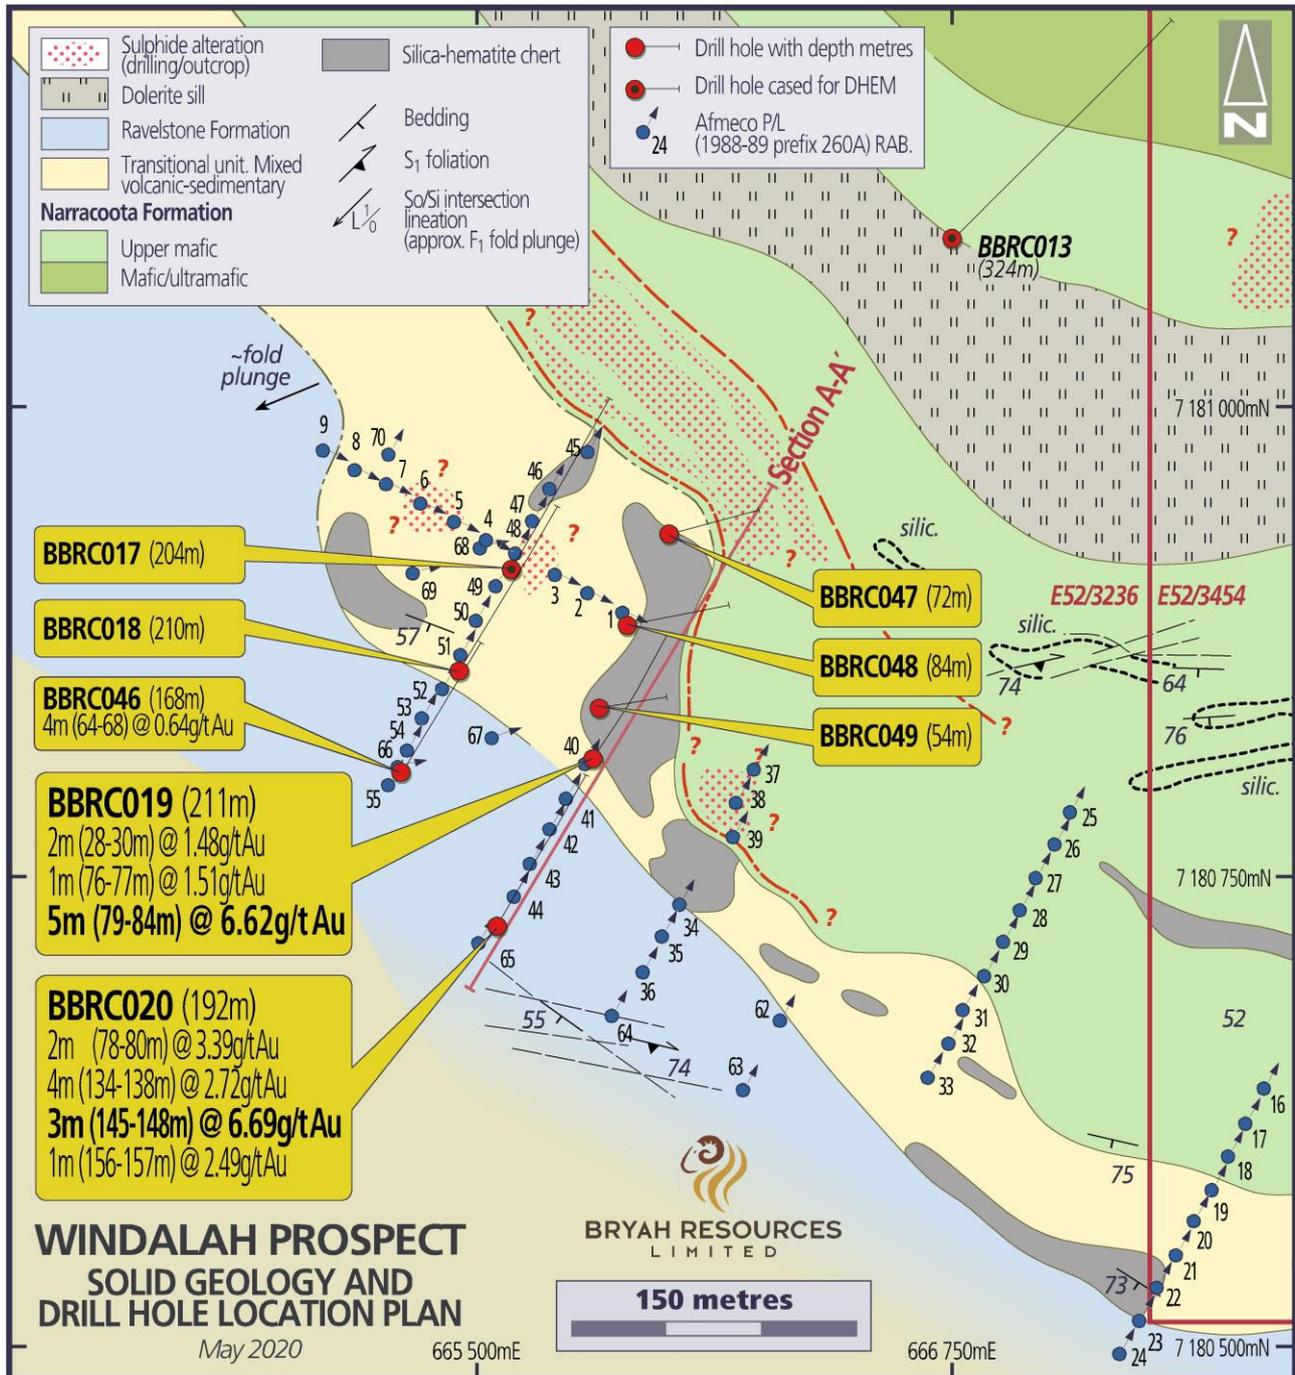
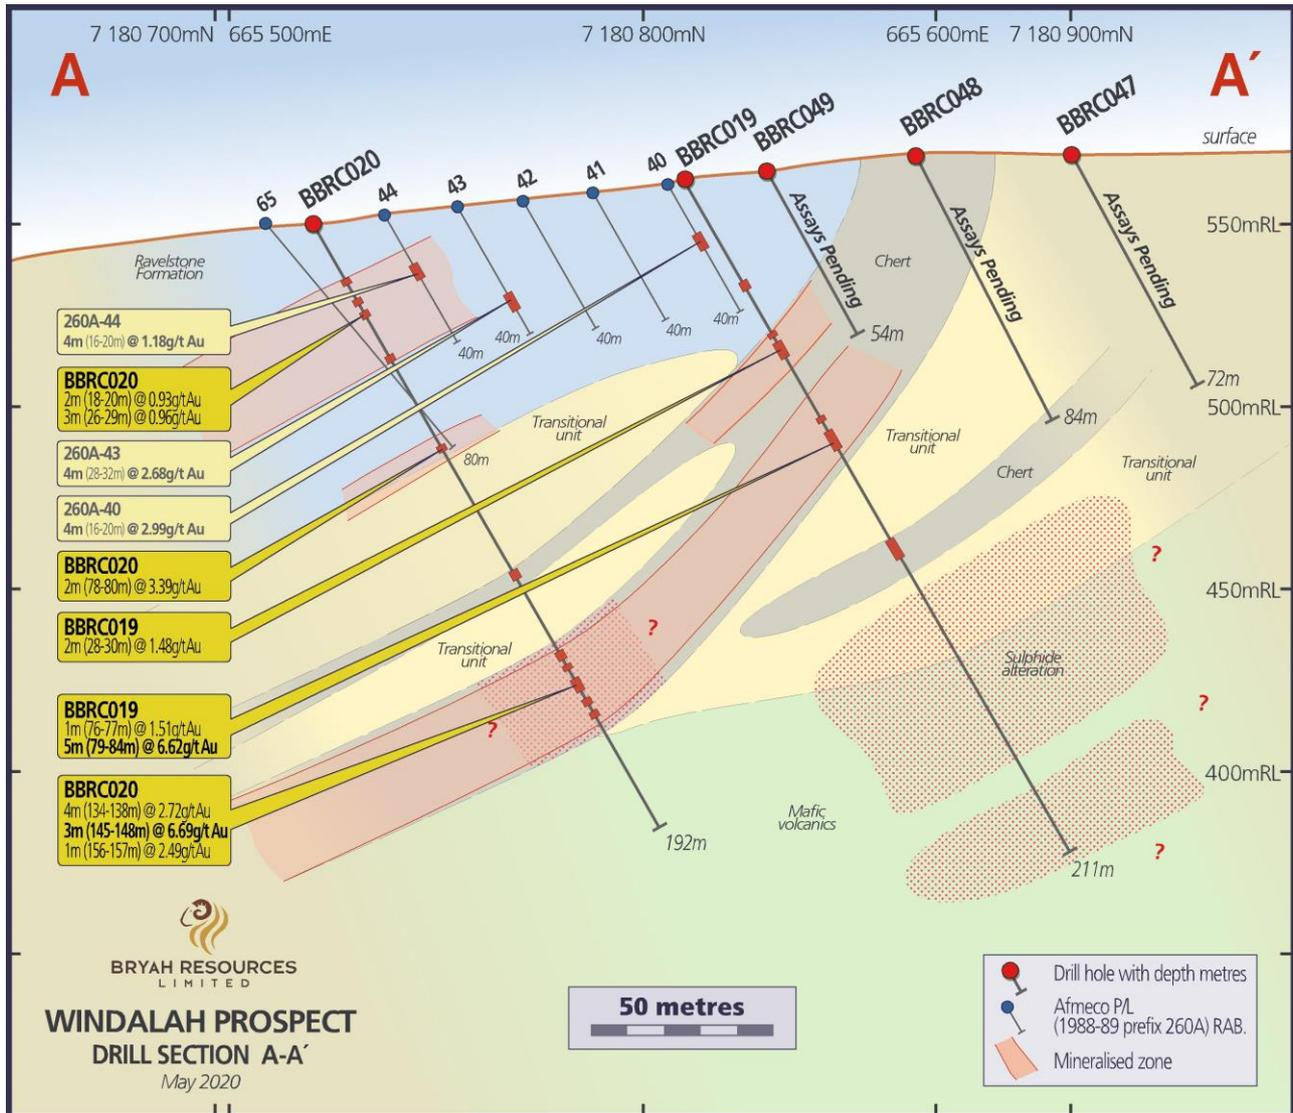

Figure 2 – Windalah Prospect Drill Hole Location Plan
Figure 3 - Winalah Prospect Drill Section A-A'
The drilling program of 210 metres consisted of 3 Reverse Circulation (RC) holes (BBRC047-BBRC049) drilled as shown in Plate 1, Figure 2 and Figure 3.
Company personnel have recently succeeded in clearing a blockage from the 50mm PVC casing in drill hole BBRC013, which could not be Down Hole Electromagnetic (“DHEM”) surveyed in early 2019 due to the blockage. See Figure 2 for the location of BBRC013.